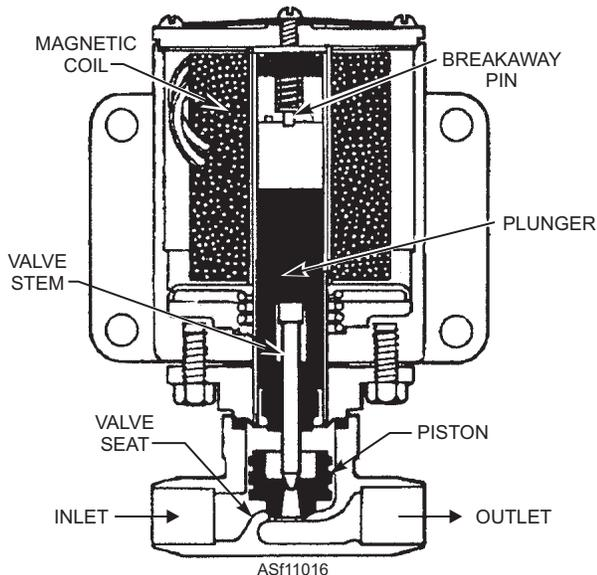

Figure 11-16.—Solenoid valve.
**SOLENOID VALVES.**—Solenoid valves, similar to the one shown in figure 11-16, are used in mobile air-conditioners to control the flow of refrigerant at various points in the system. These valves are of two types—normally opened or normally closed. Regardless of type or use, construction and function of the valves are essentially the same.